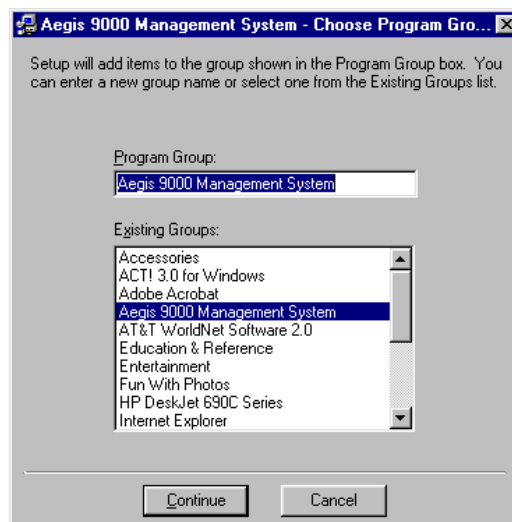

Figure 3.7
Step 6 You will see figure 3.7. You may enter a new Program Group name or use the pre-selected Program Group. It is recommended to use the pre-selected Program Group name. Click on **“Continue”**.